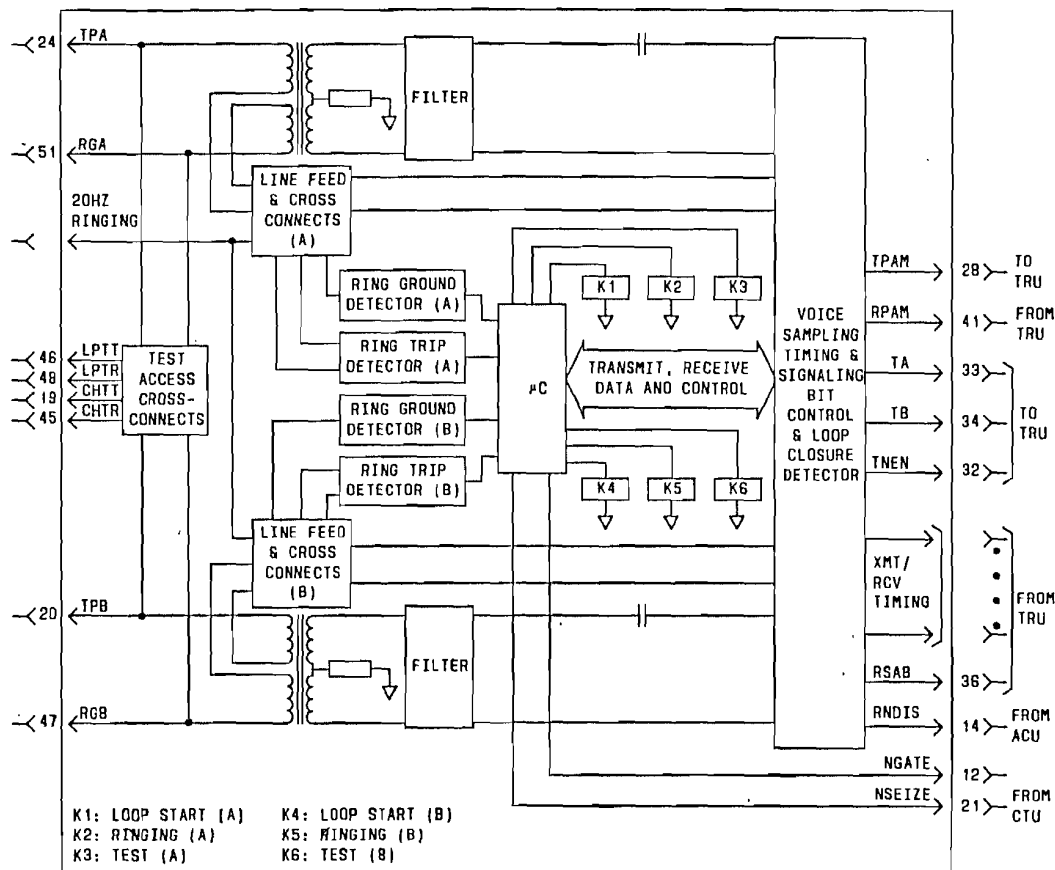
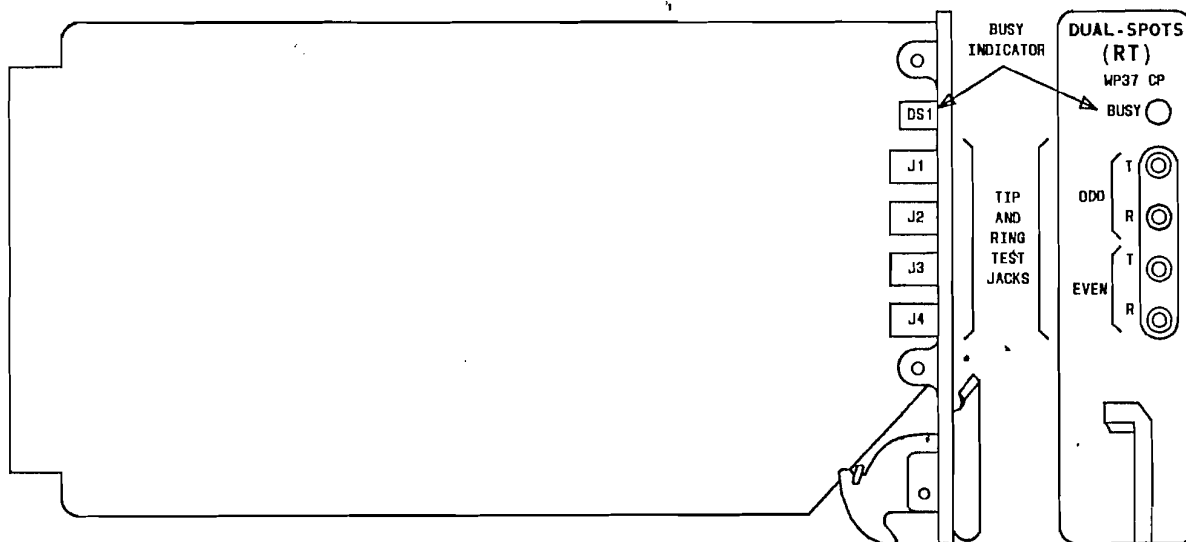

Fig. 1—WP37 Functional Diagram
Fig. 2—WP37 Board and Faceplate Diagram
vides two channels per plug-in and is testable with the pair gain test controller (PGTC). The WP37 is located in the remote terminal (RT) bank. When the SPOTS WP36 CU is in place at the central office terminal (COT) bank, the WP37 will provide open switching interval protection and forward disconnect capabilities. Figure 1 is a functional block diagram of the unit, and Fig. 2 shows the board and faceplate features.